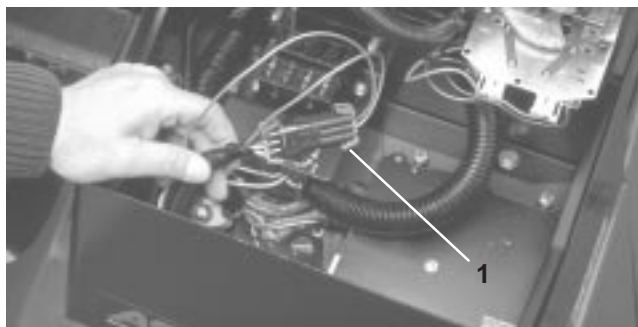

Figure 32
2. Open control panel cover. Locate wire harness and loopback connector. Carefully unplug loopback connector from harness connector (Fig. 32).